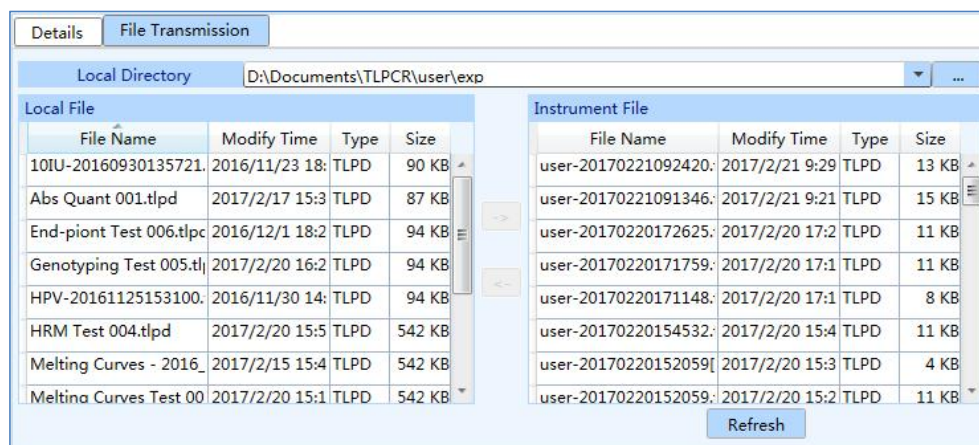

Figure D-3.2d. Instrument Management Interface - File Transmission Tab
- **File Transmission** tab: to transmit the file between the control computer and the connected Gentier instrument, as shown in figure D-3.2d.